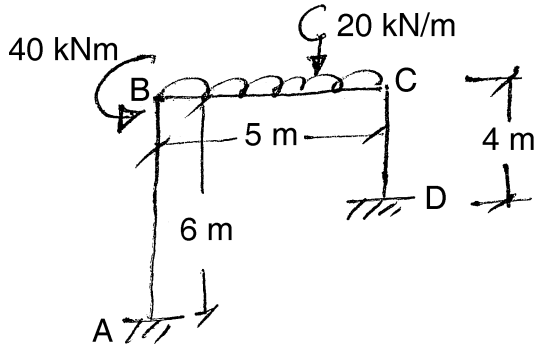

Fig. 6
5. Draw BMD of portal frame as shown in Fig. 6 by stiffness method.